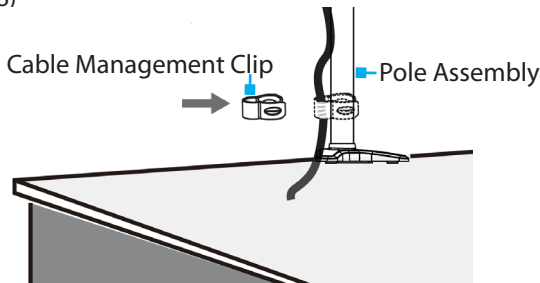

Figure 18
1. Affix the **Cable Management Clip** over the **Pole Assembly**. (Figure 18)